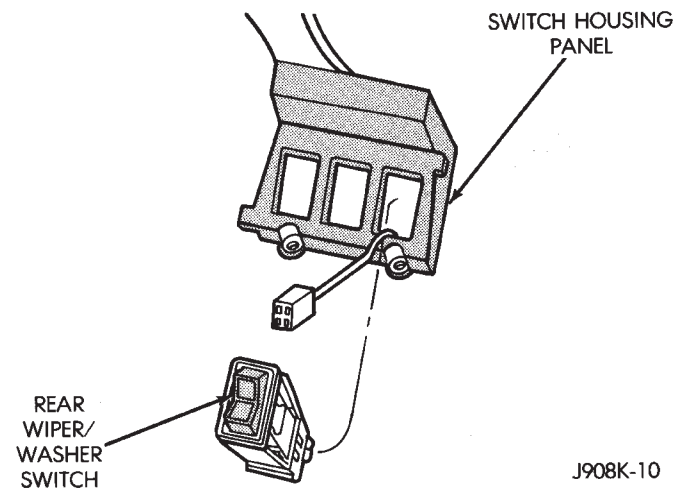

Fig. 13 Rear Wiper Switch
(1) Remove the instrumentation shroud; see Instrument Panel, Indicator Bezel Replacement.
(2) Remove the switch housing panel.
(3) Unplug the switch connector. Slightly depress the switch mounting tabs and remove the switch (Fig. 13).